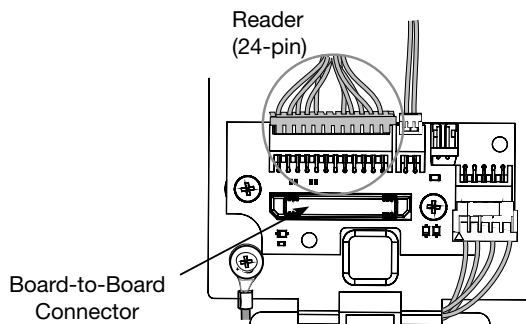

Fig. 16d
3. Secure the 24-pin card reader connector (Fig. 16d).